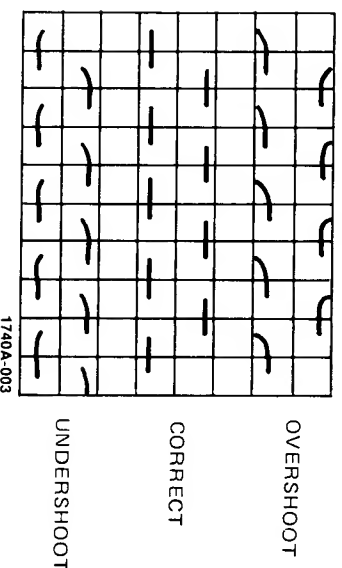

Figure 4. Probe Compensation
4. If overshoot or undershoot is present, turn the screwdriver adjustment in the probe for a flat-top presentation (see figure 4).